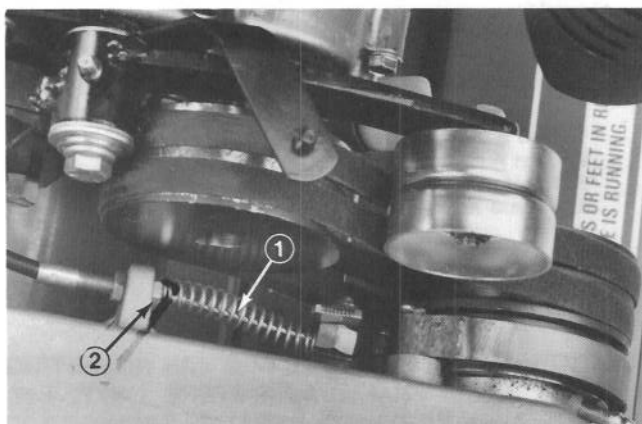

Figure 42
3. To increase cable tension, loosen front cable jam nut and tighten back cable jam nut (Fig. 42) until a force of 3–5 lbs. is required to engage brake. Force to be measured at lever knob. Do not over adjust, so brake band drags.